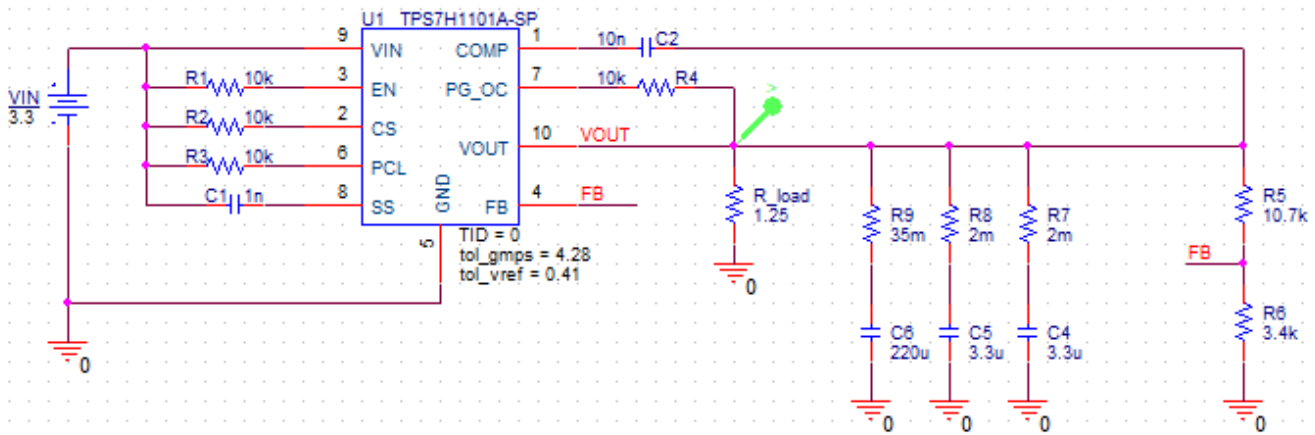

Figure 1. Transient Analysis Schematic
14. There are slight differences between the reference designs used for transient analysis and frequency analysis. Add the remaining components to complete the schematic as shown in Figure 1 or Figure 2 according to which analysis you wish to perform.